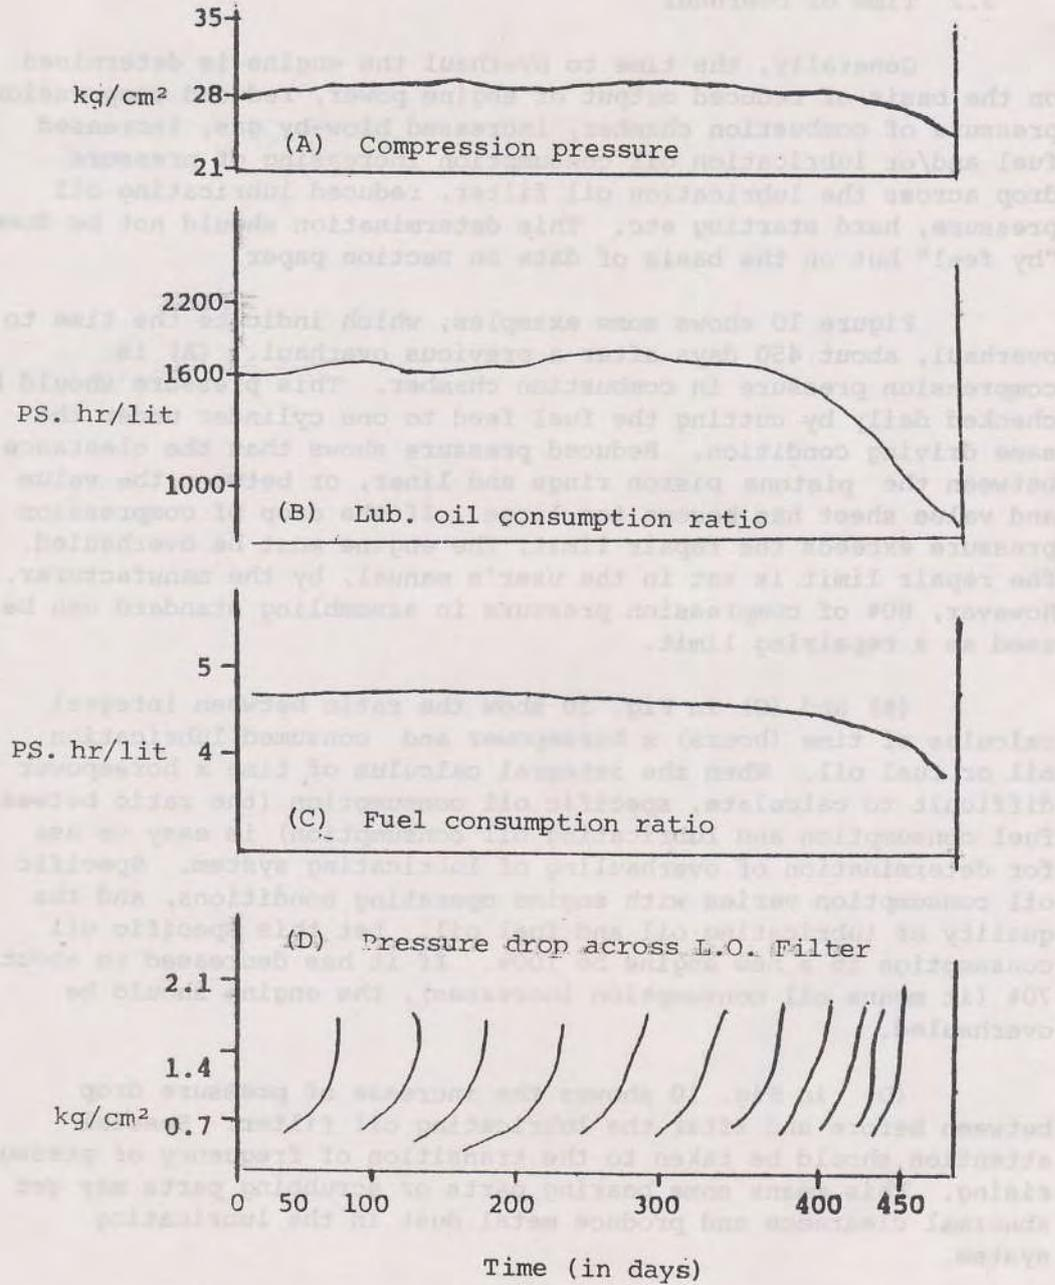

Fig. 10
Figure 10 shows some examples, which indicate the time to overhaul, about 450 days after a previous overhaul. (A) is compression pressure in combustion chamber. This pressure should be checked daily by cutting the fuel feed to one cylinder under the same driving condition. Reduced pressure shows that the clearance between the pistons piston rings and liner, or between the valve and valve sheet has become too large. If the drop of compression pressure exceeds the repair limit, the engine must be overhauled. The repair limit is set in the user's manual, by the manufacturer. However, 80% of compression pressure in assembling standard can be used as a repairing limit.
(B) and (C) in Fig. 10 show the ratio between integral calculus of time (hours) x horsepower and consumed lubrication oil or fuel oil. When the integral calculus of time x horsepower is difficult to calculate, specific oil consumption (the ratio between fuel consumption and lubricating oil consumption) is easy to use for determination of overhauling of lubricating system. Specific oil consumption varies with engine operating conditions, and the quality of lubricating oil and fuel oil. Let this specific oil consumption in a new engine be 100%. If it has decreased to about 70% (it means oil consumption increases), the engine should be overhauled.
(D) in Fig. 10 shows the increase of pressure drop between before and after the lubricating oil filter. Special attention should be taken to the transition of frequency of pressure rising. This means some bearing parts or scrubbing parts may get abnormal clearance and produce metal dust in the lubricating system.
The examples given in Fig. 10 are only some of many possible ones. Larger engines and heavier duty of the engine means that more engine data must be referred to.